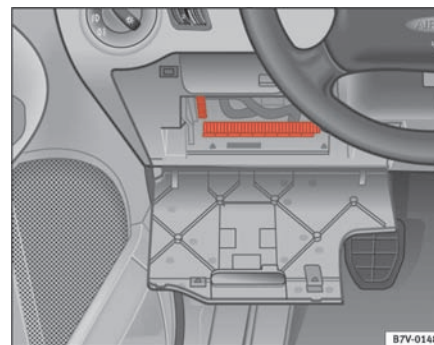

Fig. 163 Left side of dash panel: fuse box
- Remove the fuse box cover $\Rightarrow$ fig. 163.